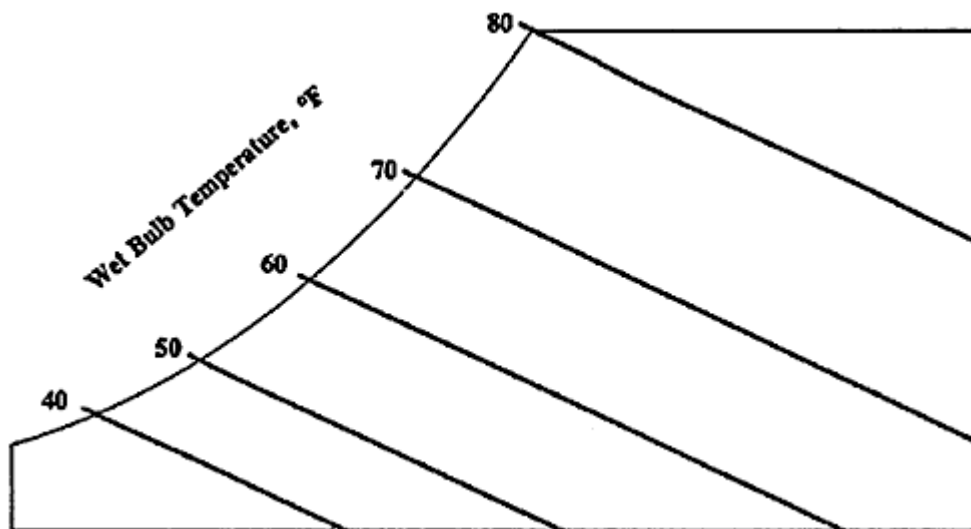

Figure 3. Wet bulb temperature lines.
2. **Wet bulb temperature** reflects the cooling effect of evaporating water. This effect is often used to cool livestock buildings and some homes. Wet bulb temperature can be determined by passing air over a thermometer that has been wrapped with a small amount of moist cloth. The cooling effect of the evaporating water causes a lower temperature compared to the dry bulb air temperature. The wet bulb temperature scale is located along the curved upper left portion of the chart. The sloping lines indicate equal wet bulb temperatures (*Figure 3*).